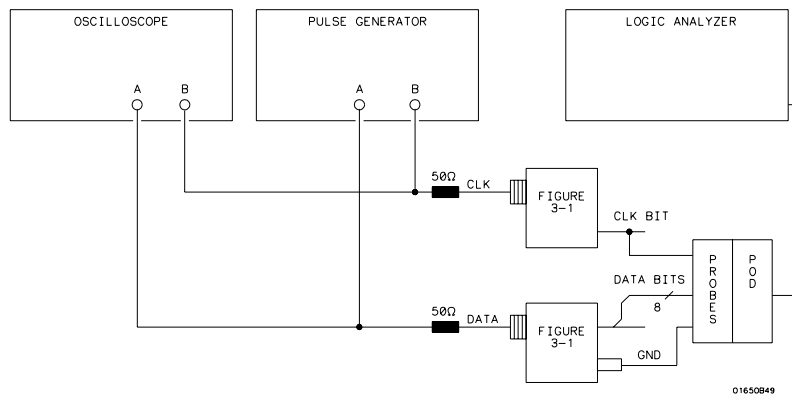

Figure 3-2. Setup for Data Test 1
1. Connect the HP 1650B\ 51B and test equipment as in figure 3-2.